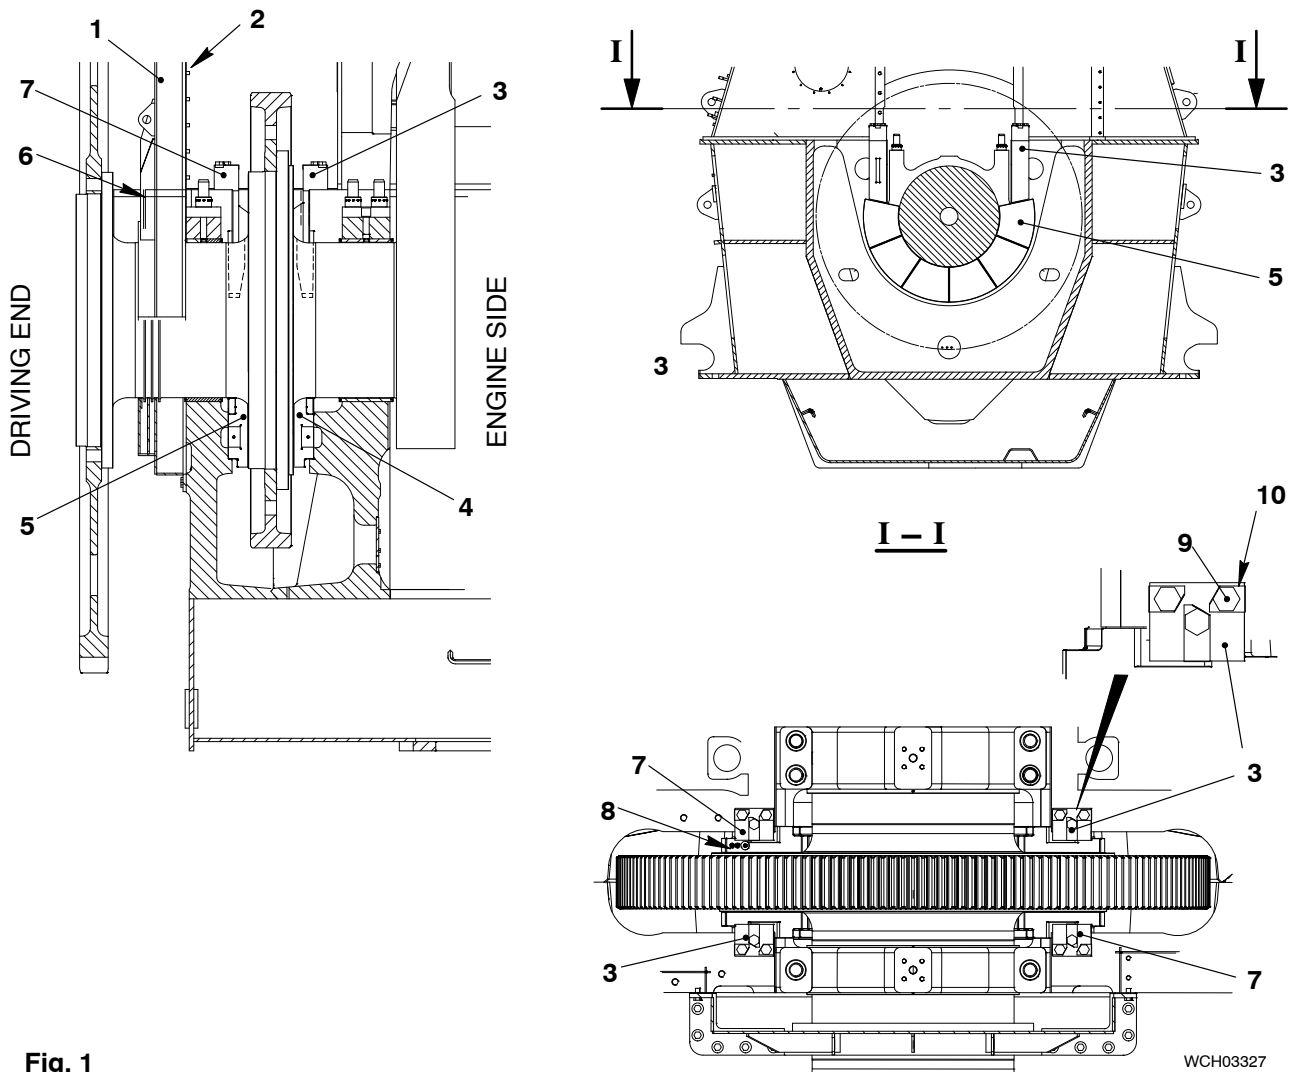

Fig. 1
- 2) Remove the cover (2, Fig. 1) from the casing (1).
- 4) Remove the three bolts (9) from the applicable arbor supports (3, 7).
- 5) Discard the locking plates (10).
- 6) On the engine side, remove the temperature sensors (8) from the applicable thrust pads.